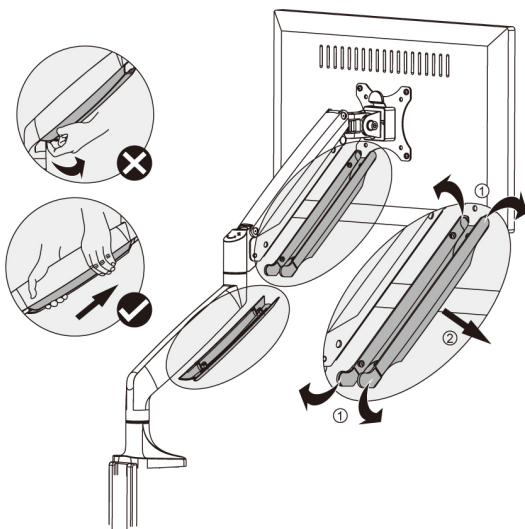

Figure 12
1. Remove the cable covers from the mounting arms, see Figure 12.